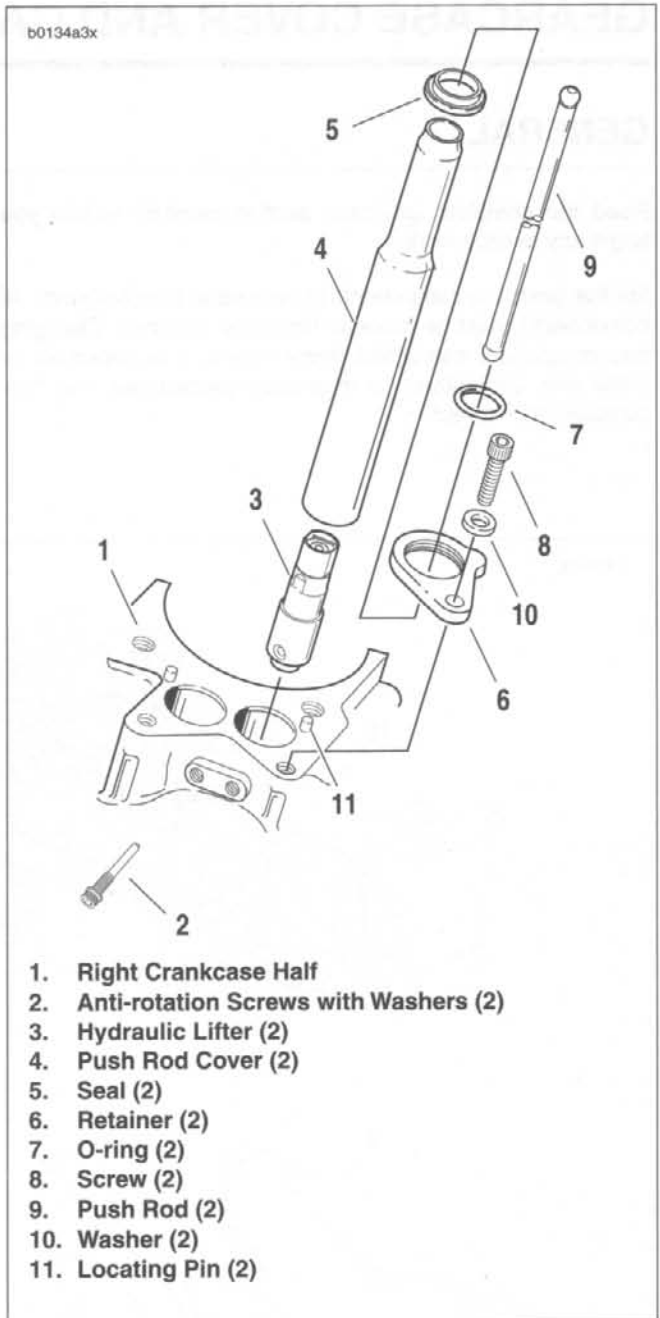

Figure 3-64. Hydraulic Lifter Service
3. See Figure 3-64. Remove both push rod covers (4).
- a. Remove screw (8) and washer (10).
- b. Lift retainer (6) and seal (7) upward a few inches on push rod cover (4).
4. Remove both hydraulic lifters (3).
- a. Remove two anti-rotation screws with washers (2).
- b. Remove lifters (3) from crankcase bore using a thin-bladed screwdriver. Mark the location and orientation (front/back) of each tappet.
3. See Figure 3-64. Insert lifter (3) into bore in crankcase (1) with lifter oil hole facing towards the oil trough. Rotate lifter so that flats at upper end of lifter faces the front and rear of the engine. If the lifter is installed incorrectly, anti-rotation screws (2) cannot be inserted.
- a. Insert anti-rotation screws with washers (2) in the threaded holes in crankcase.
- a. Slide **new** seal (5) and retainer (6) over top of push rod cover (4).
- b. Position **new** O-ring (7) at top of push rod cover.
- d. Lower retainer (6) with seal (5) onto crankcase, aligning locating pin (11) with hole in retainer.
- e. Insert screw (8) with washer (10) through hole in retainer (6). Thread screw (8) into tapped hole in crankcase. Tighten to 15-18 ft-lbs (20.3-24.4 Nm).